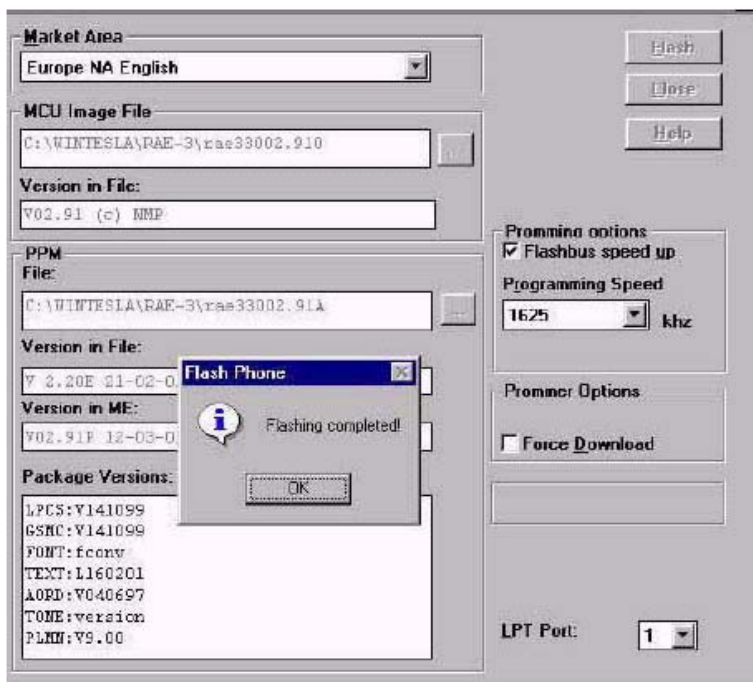

Figure 11. Flash programming completed
- 13. After Flash programming complete message you can close the flash dialog (see Figure 11)